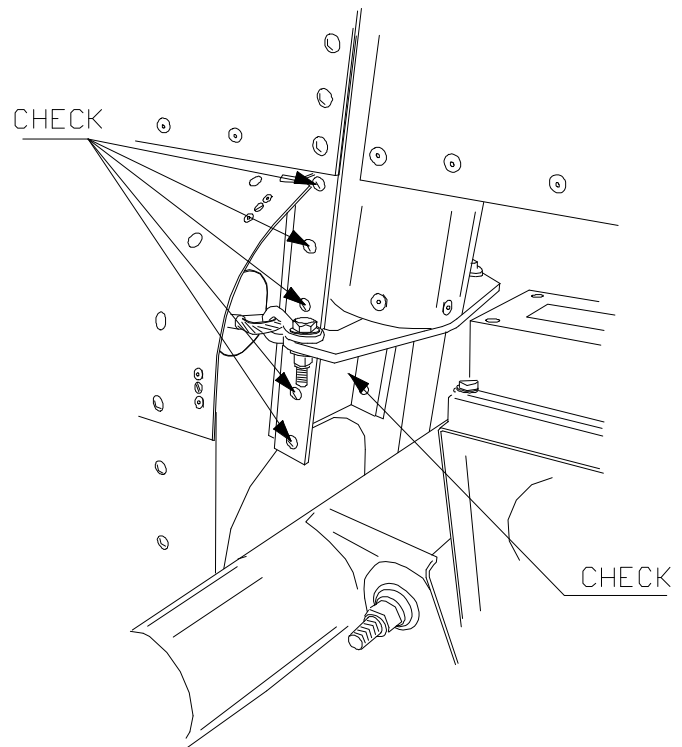

Fig.1
- B. Clean with care the zone indicated in fig.1.
- C. Using a magnifying glass (10x) with a spot light, check for integrity all the rivets indicated in fig.1 and the spar's status. In case of cracks or any other problems, suspend immediately the flights and inform TECNAM.
- C. Clean with care the zone indicated in fig.1.